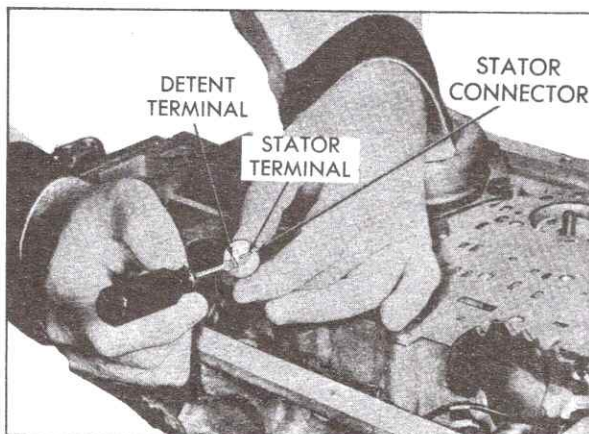

Fig. 7-35 Removing Detent Solenoid Wire
6. Remove stator connector from case connector and disconnect detent (short) wire from stator connector, Fig. 7-35.
1. Disconnect stator solenoid lead from connector terminal, Fig. 7-35, on AA transmissions.